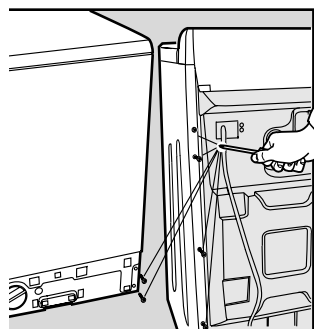

Fig. 1
2. Remove the appliance base and unscrew the 2 screws on the bottom right-hand side, then unscrew the 6 rear screws, on the left-hand side, and remove the side panel by tipping it slightly outwards and pulling it out. (fig. 1 and 2).